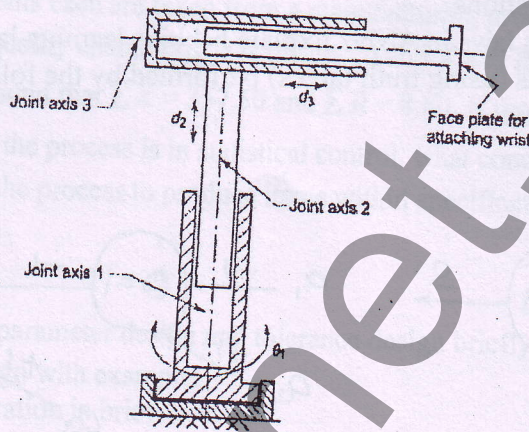

Fig. 2 Que. 4 (c)
- (c) Obtain end-effectors position and orientation shown in fig.2 5